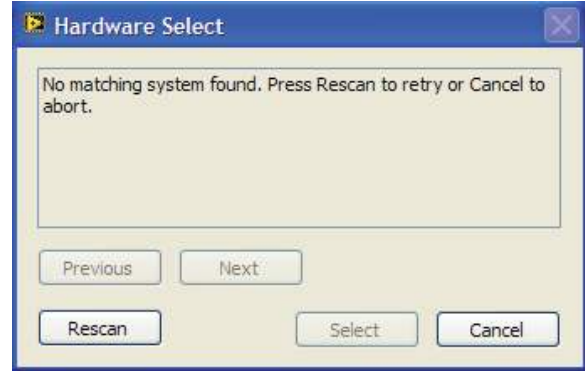

Figure 2. Error Dialog Box
2. Determine if the SDP is connected to the USB port. If the SDP is not connected to the USB port when the software is launched, a connectivity error dialog box displays (see Figure 2). Connect the evaluation board to the USB port of the PC, wait a few seconds, click **Rescan**, and follow the instructions shown in the **Hardware Select** dialog box.